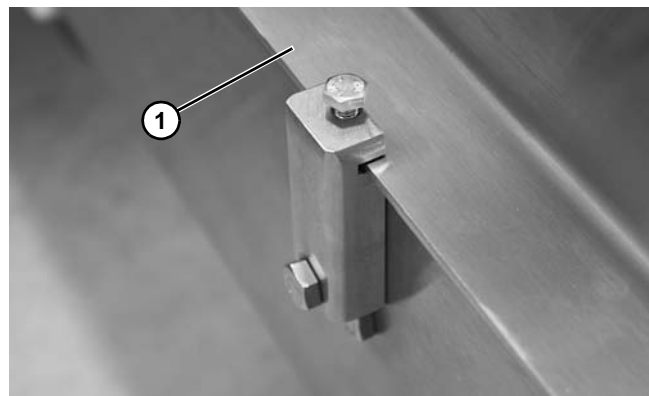

Figure 29
1. Remove guides (Figure 29, item 1) when required.